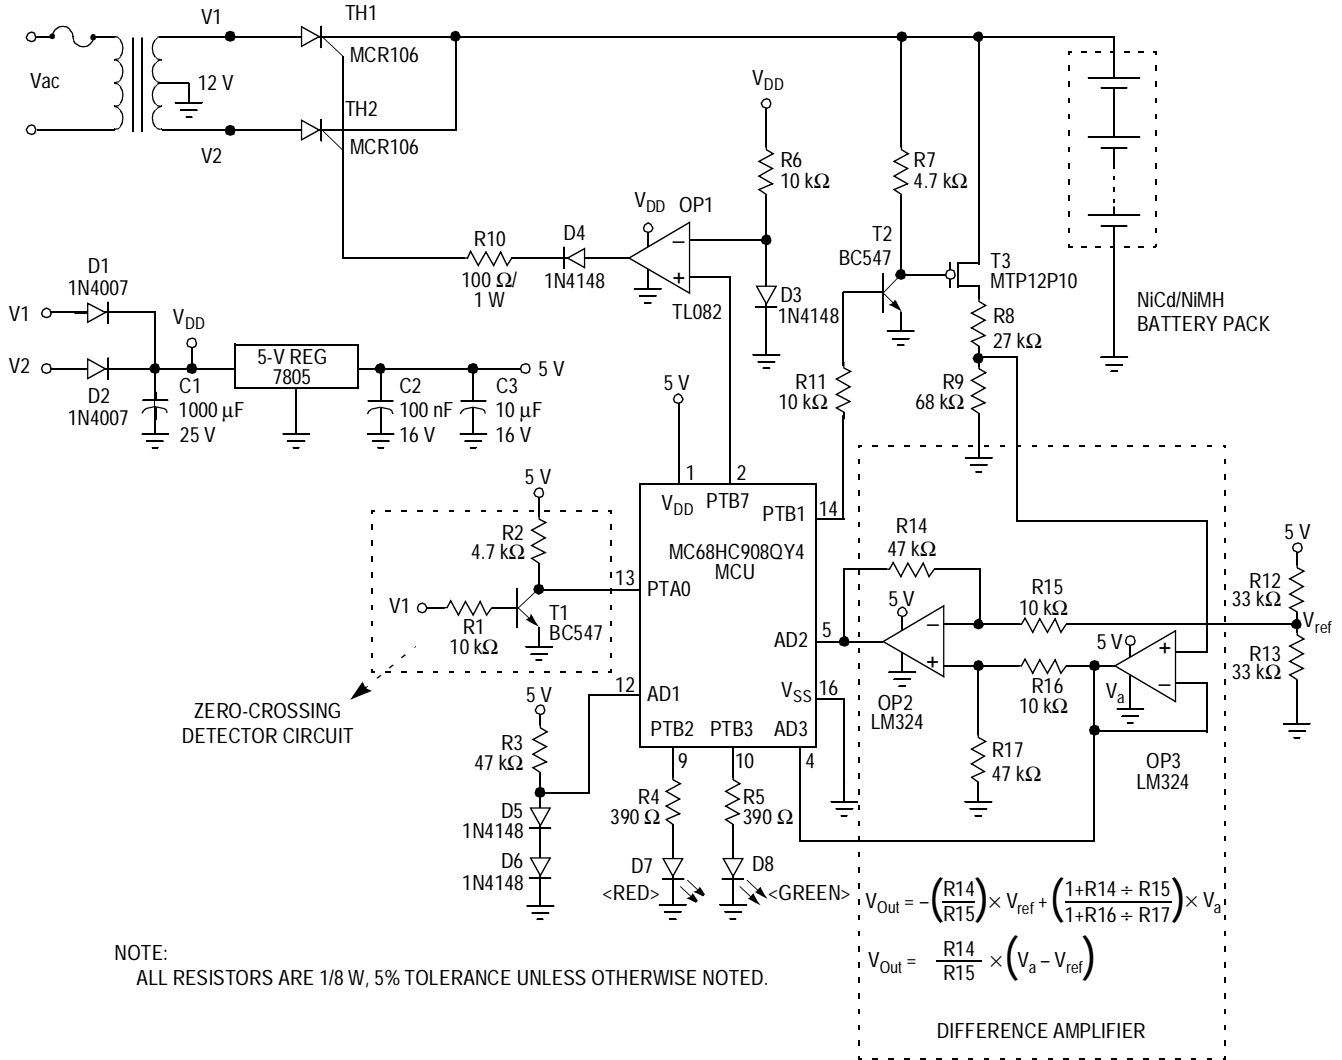

Figure 3. Battery Charger Circuit Diagram
Figure 3 is the smart NiCd/NiMH battery charger circuit diagram. The system combines the voltage flat and the absolute temperature detection techniques followed by the trickle charge method to charge a NiCd/NiMH battery pack with three cells.
7. The system subtracts the reference voltage (V_{ref}) from the voltage on the battery packs using the difference amplifier (as shown in Figure 3). The MC68HC908QY4 MCU converts that data to a digital word using its internal ADC and the AD2 channel.